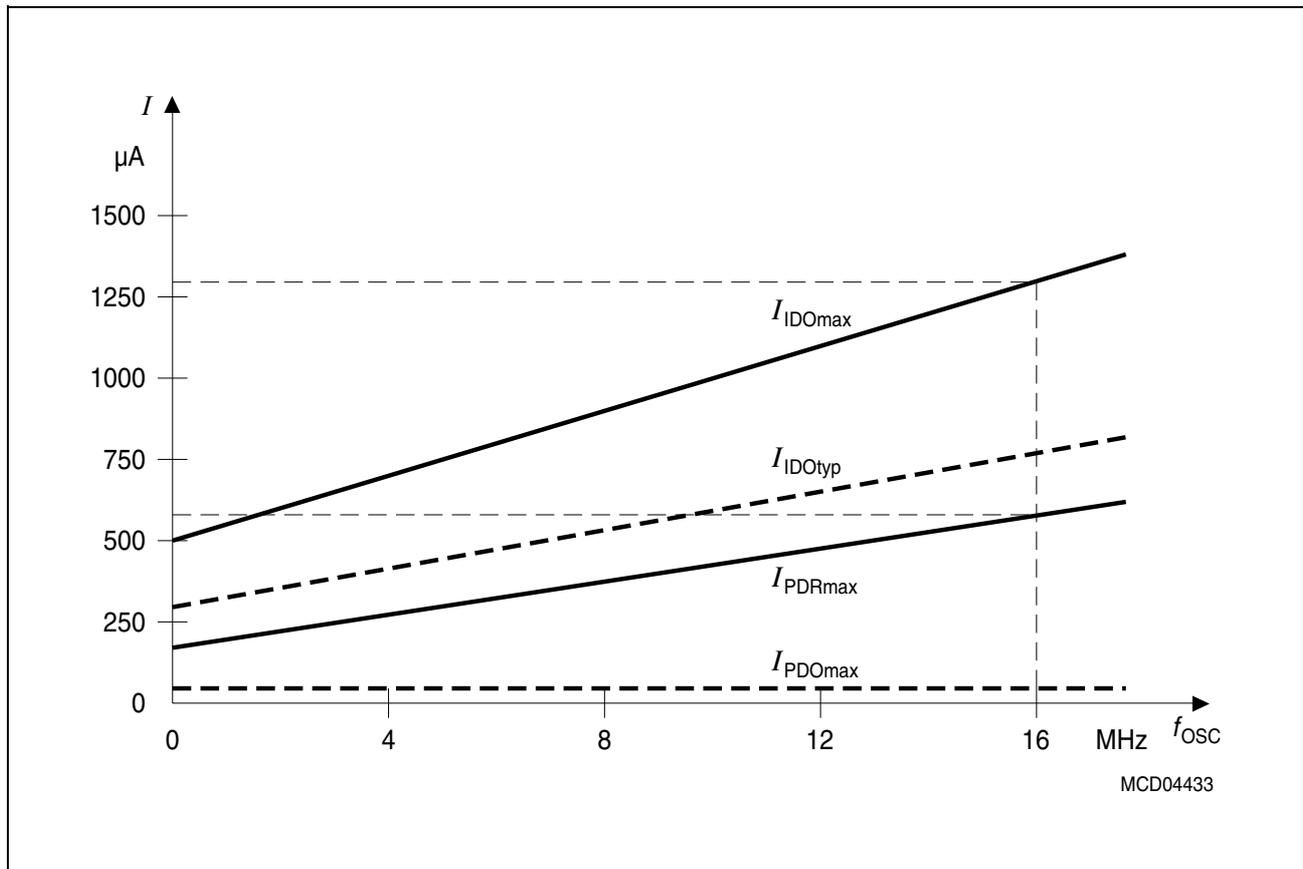

Figure 8 Idle and Power Down Supply Current as a Function of Oscillator Frequency
- 2) This parameter is determined mainly by the current consumed by the oscillator (see Figure 8). This current, however, is influenced by the external oscillator circuitry (crystal, capacitors). The values given refer to a typical circuitry and may change in case of a not optimized external oscillator circuitry.